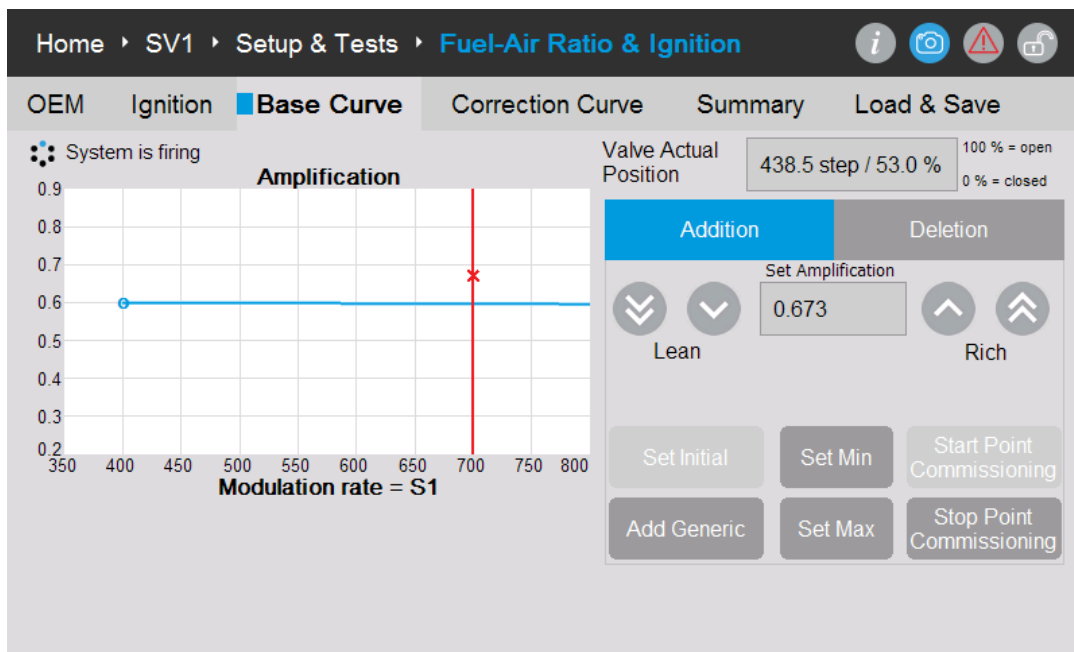

Fig. 64: Base Curve Amplification Settings.
- If the minimum and maximum loads are not set, the SV2 Series control will not allow a next startup of the burner if the system is not in commissioning mode. Refer to the Set Min and Set Max buttons in Fig. 64.